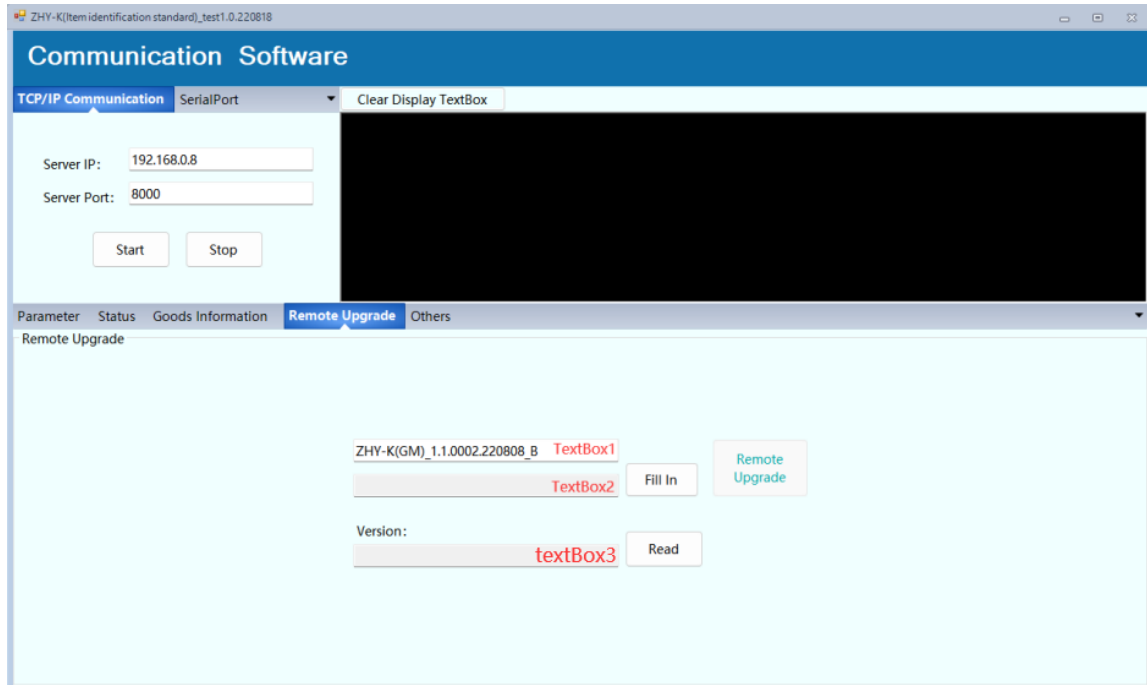

Figure 4.16 Input Version message UI
(1) first you must input the version in TextBox1. As shown in Figure 4.16;